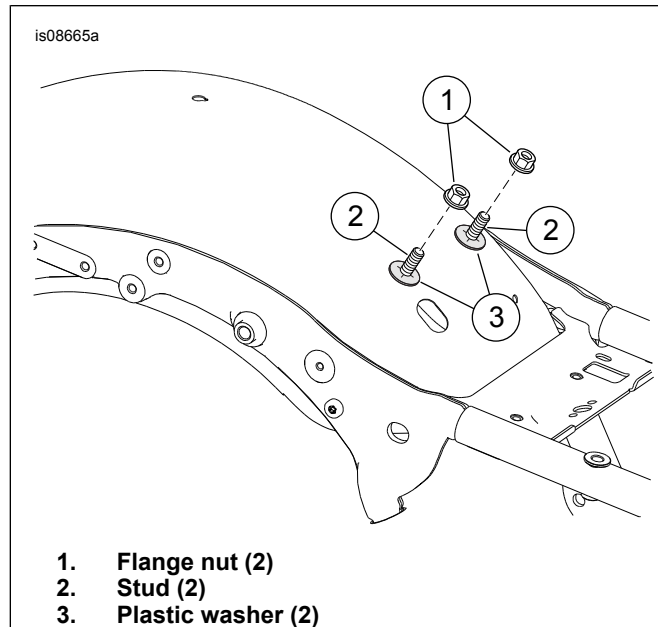

Figure 2. Mounting Hardware
3. See Figure 2. Remove nuts (1). Leave washers (3) and studs (2) in place.
5. See Figure 2. Set mounting base over studs (2) and plastic washers (3).